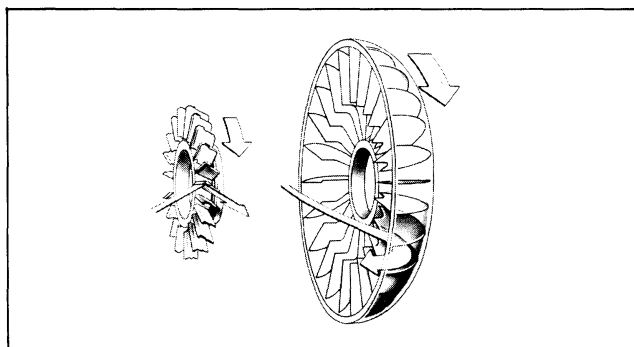

Fig. 7C-8 Torus Operation—Step 3
Step 2. After the oil has acted on the driven member the oil is forced to the torque multiplier (Fig. 7C-7).